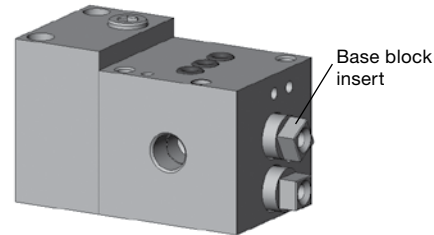

Fig. 2
3. Tighten the two base block insert screws to the two left end base block inserts using a 9/64 in. **hex torque wrench** placed through the **base block inserts** to 35 to 45 in.-lb (4.0 to 5.1 N·m). See Fig. 2.